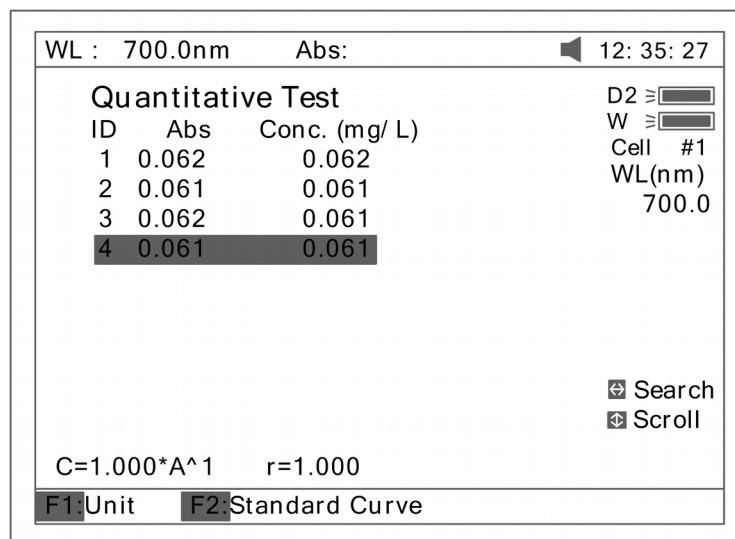

Fig 38
4.2 Pull the sample cuvette into Main Light Path, press the key **(START)**, the results will be displayed on the screen (Fig 38).